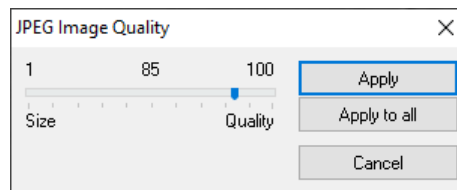

Fig.7.3. Export to JPEG dialog box
- **Print** – Profile printout in one of the views supported by the software. The following items may be modified in the Print dialog box (Fig. 7.3):